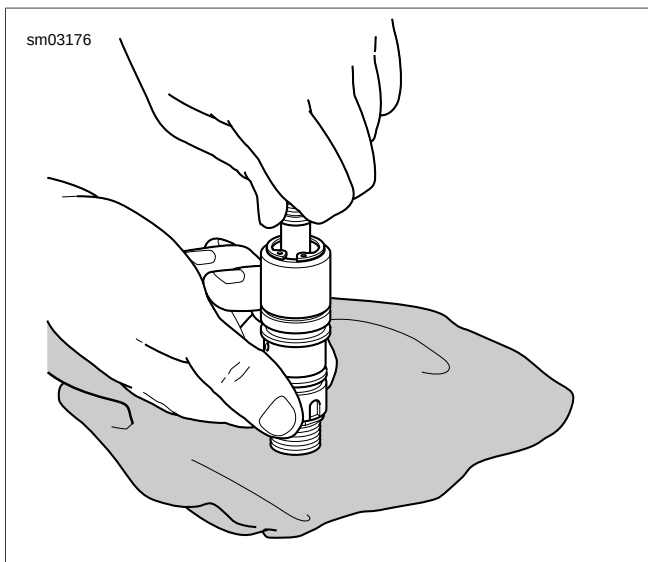

Figure 2-58. Compress Spring and Retaining Ring
4. See Figure 2-58. Stand cartridge body upright on banjo sealing surface. Lay down a clean shop cloth to protect the sealing surface from damage.